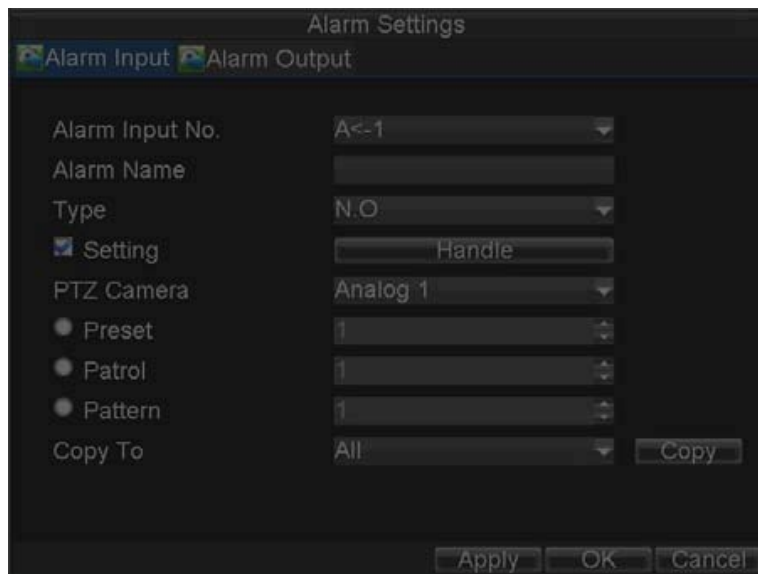

Figure 9.9. Alarm Management Settings
- 2) Select the Alarm Input No. and click the *Set* button to enter the Alarm Input Settings menu, shown in Figure 9.9.